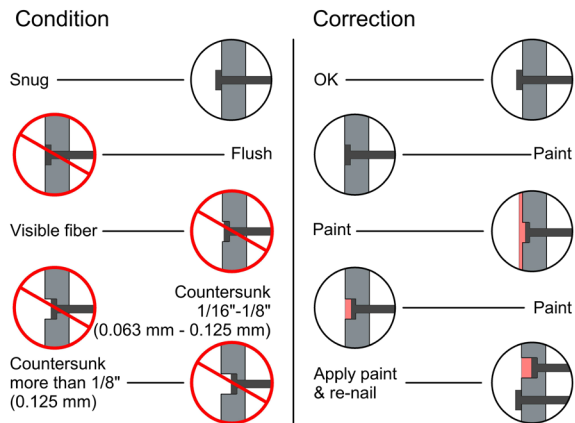

Figure 2
- Nail head should seat snug to face of cladding, but not be flush to distort the siding surface. (Figure 2)